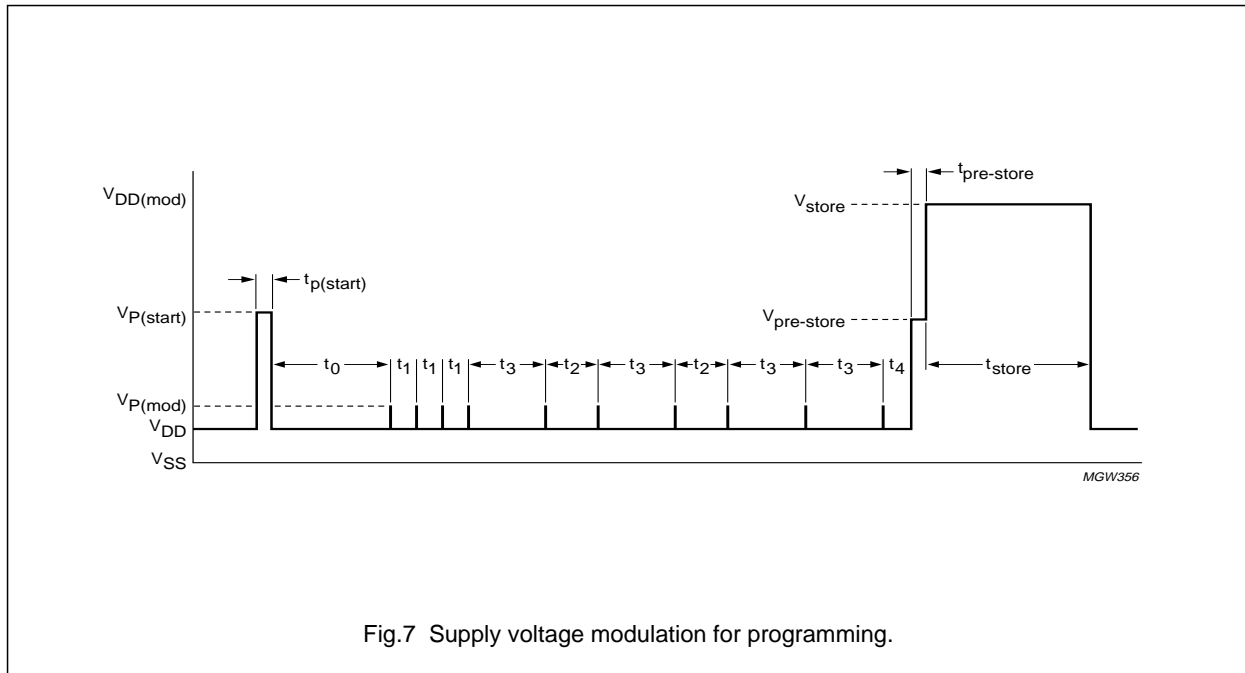

Fig.7 Supply voltage modulation for programming.
Each instruction state is switched on with a pulse to  $V_P$  (6.7 V). After this large pulse, an initial waiting time of  $t_0$  (20 ms) is required. The programming instructions are then entered by modulating the supply voltage with small pulses (amplitude  $V_{P(mod)} = 0.35$  V and pulse width  $t_{mod} = 30$   $\mu$ s). The first small pulse defines the start time, the following pulses perform three different functions, depending on the delay from the preceding pulse (see Figs 7, 8, 11, and 12):
Applying the two-stage programming pulse (see Fig.7) transfers the stored data in the shift register to the OTP cells.
The example shown in Fig.7 performs the following functions:
**Table 6** Specifications for OTP programming (see Figs 7, 8 and 12).